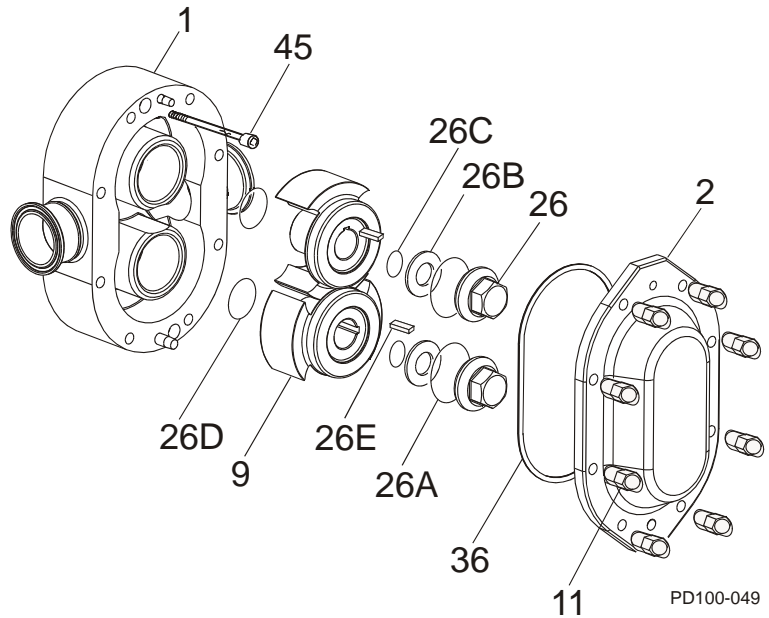
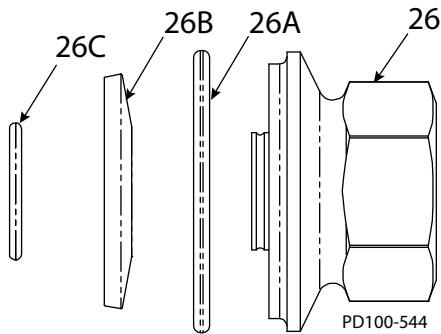
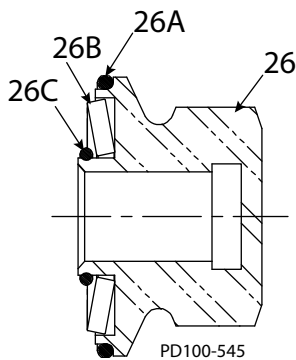

Figure 68 - Exploded View of Fluid Head
Figure 69 - Detail View of Rotor Nut Assembly
Figure 70 - Cross-Section View of Rotor Nut Assembly, as Assembled
2. Install the body (Figure 68, item 1) to the gear case assembly, aligning the body with the body studs. Avoid damaging the seals as the body is drawn over the shafts.
3. Secure the body to the gear case using two cap screws (Figure 68, item 45).
1. Lubricate the rotor hub o-ring (Figure 68, item 26D) with a lubrication compound compatible with the o-ring material and process fluid(s).
2. Install new rotor hub o-rings (item 26D) into the groove on the rotor hubs.
3. Install the rotors (item 9) onto the shafts.
4. Align the keyways in the rotors with the keyways on the shafts and install the keys (item 26E).
NOTE: For rotor nut assembly detail, including orientation of the belleville-style washer (item 26B), see Figure 69 and Figure 70 41.
Table 10: Callout table for Figure 68
See Figure 68 on page 40, and Figure 69 and Figure 70 on this page.
1. Clean the cover o-ring (See Figure 68 page 40 item 36) and install it in the groove in the cover.
3. Install the cover (See Figure 68 page 40 item 2) on the pump body.
5. Tighten the cover securely using the cover nuts (See Figure 68 page 40 item 11).